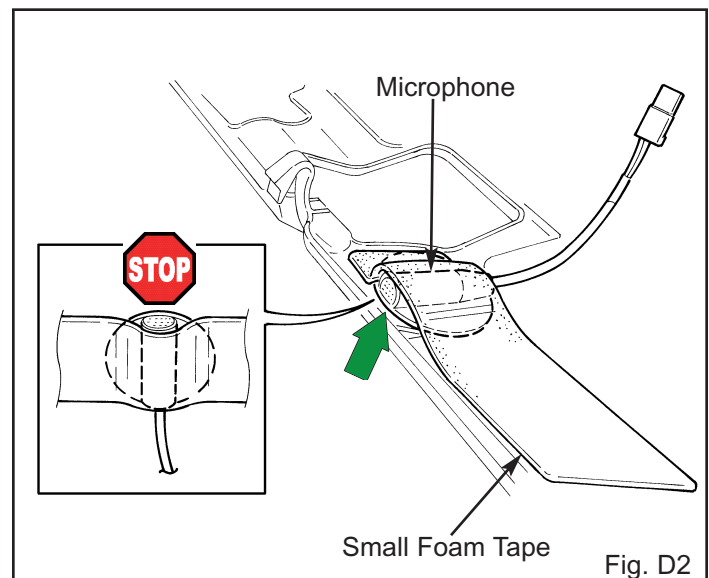

Fig. D2
3. Secure the microphone with one small strip of foam tape. (Fig. D2)